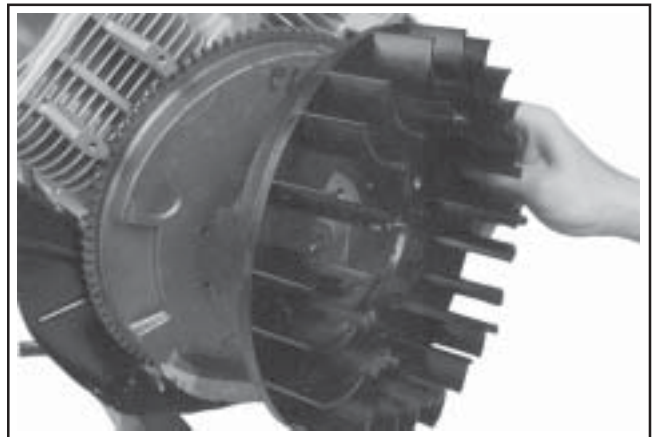

**Figure 11-29. Installing and Torquing Flywheel Fastener.**
4. Use a flywheel strap wrench or holding tool to hold the flywheel. Torque the hex flange screw securing the flywheel to the crankshaft to **66.4 N·m (49 ft. lb.)**. See Figure 11-29.